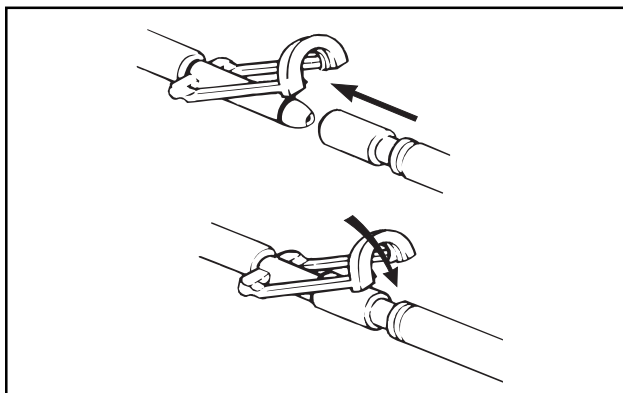

Figure 6—Clik-Tite Connector
- b. Attach the two Clik-Tite connectors (fig. 6) on the connector hose to the blanket. Insert the male fitting into the female. When fittings are fully seated, snap the locking ring into place to assure a positive lock.